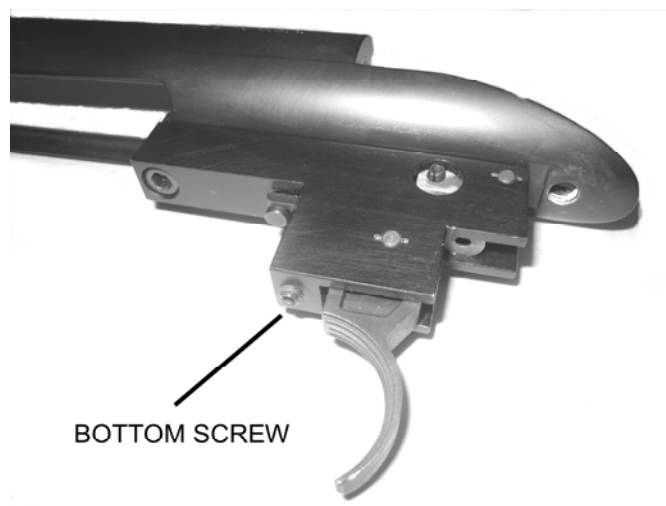

Fig. 9
3. To increase weight of the trigger pull, with a 5/64” Allen wrench turn the bottom adjusting screw clockwise until desired weight of trigger pull is established. To decrease weight of trigger pull turn the bottom adjusting screw counter-clockwise until desired weight of trigger pull is established (refer to fig. 9)